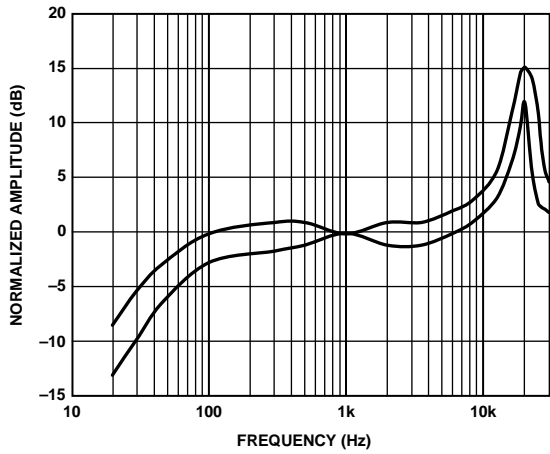

Figure 4. Frequency Response Mask
**Note 1:** See Figures 4 and 5.